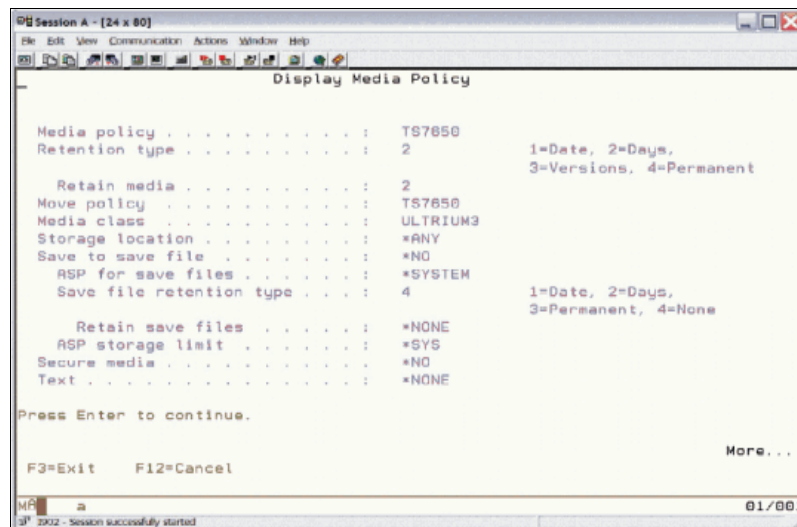

Figure 17-5 Example of change control group attributes
2. Create a BRMS media policy to use this move policy (Figure 17-5).